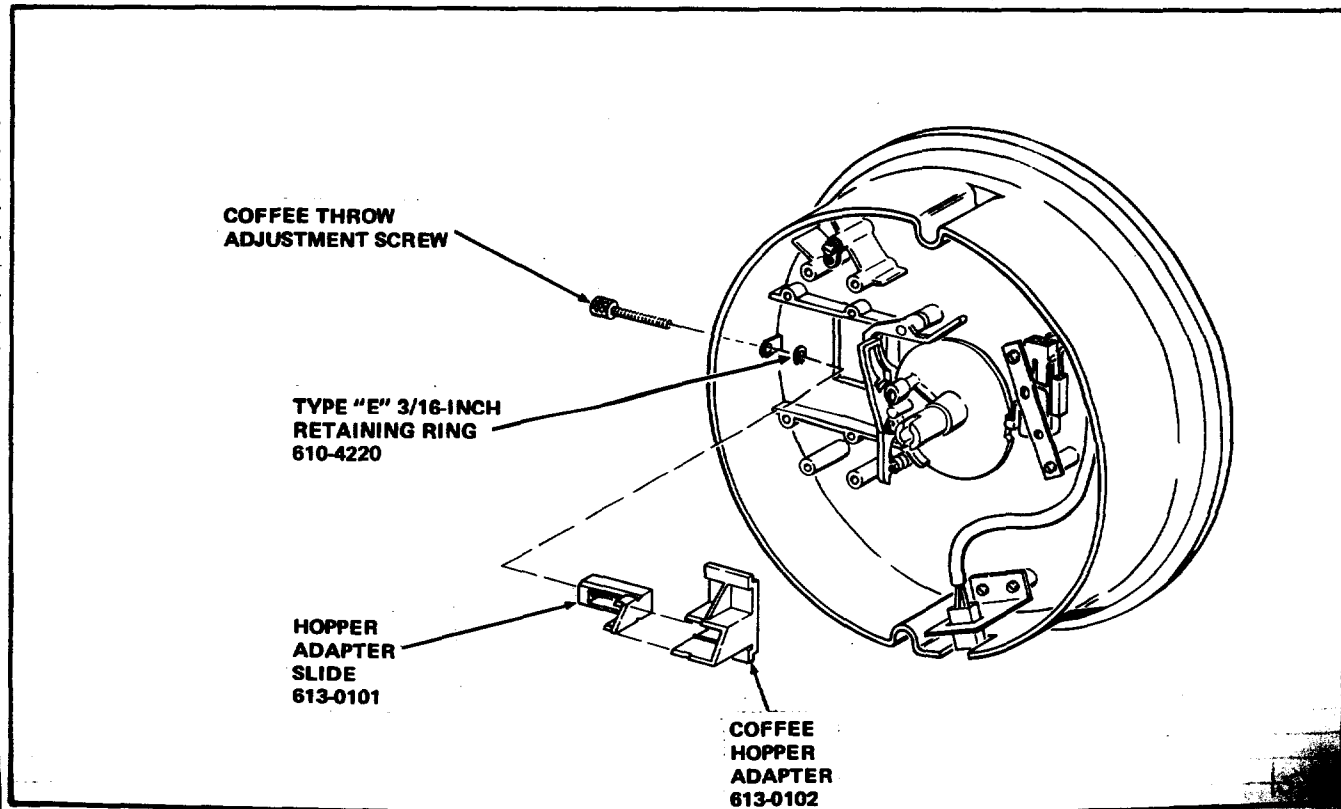

FIGURE 5
5. Fit the Hopper Adapter Slide, Part Number 613-0101, into the Coffee Hopper Adapter, Part Number 613-0102, both parts included in the Kit, as shown in Figure 5.
6. Install the assembled Hopper Adapter Slide and Coffee Hopper Adapter over the opening in the Coffee Hopper Base and attach with the Coffee Throw Adjustment Screw as shown in Figure 5.
7. Secure the Coffee Throw Adjustment Screw by fitting the Type "E" 3/16 inch Retaining Ring, Part Number 610-4220 included in the Kit, in the groove of the Coffee Throw Adjustment Screw. See Figure 5.